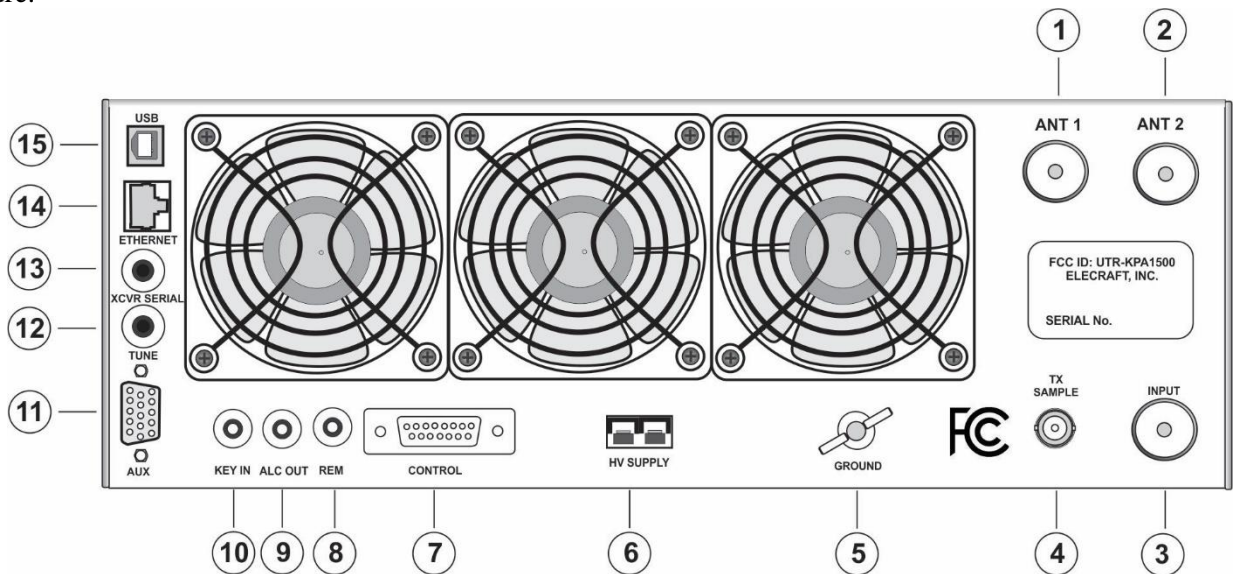
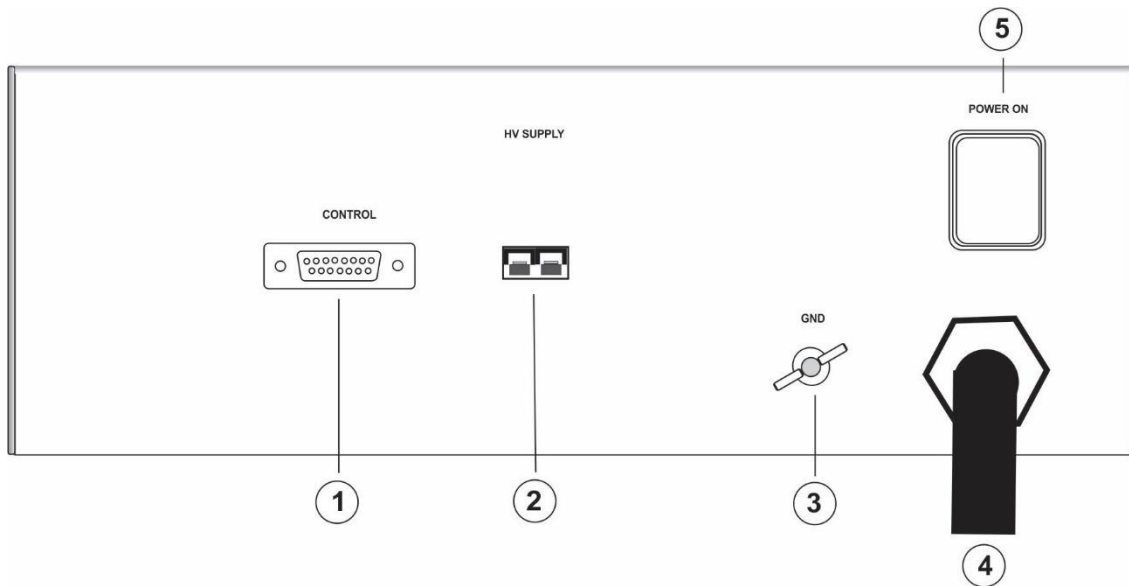

Figure 1. KPA1500 RF Deck Rear Panel
Figure 2. Power Supply Rear Panel.
The KPA1500 RF deck rear panel is shown in Figure 1. The connectors and controls are described following the figure.
The KPA1500 Power Supply Deck is shown in Figure 2. The connectors and controls are described below the figure.
Be sure the POWER ON switch (⑤, Figure 2) is off before connecting any cables to the Power Supply or RF deck.
Connect the Power Supply to the RF deck with the supplied 66-inch (167 cm) cable that has an Anderson PowerPole® connector and a 15-pin connector at each end. Plug the PowerPole connector into the HV Supply connector (⑥) on the RF Deck rear panel (see Figure 1) and the corresponding connector on the Power Supply (②, Figure 2). Observe the polarity; match the colors on the plug with the connectors. *Note that the 75A PowerPoles click twice when inserted. There is no electrical connection until the second “click”.*
Connect the 15-pin connector to the Power Supply and the Control connector (⑦, Figure 1) on the RF Deck rear panel.
1. Connect your station ground to the GND wing-nut **⑤** (see Figure 1 on page 6). A good station ground is important for safety and to minimize local radio frequency interference (RFI).
2. Attach the RF INPUT **③** to the output of your driving transceiver or transmitter using a 50 ohm coaxial cable with a PL-259 male connector on the KPA1500 end.
3. Attach the ANT 1 **①** or ANT 2 connector **②** to a suitable load with an SWR of less than 1.5:1. A 50  $\Omega$ , 1500 W dummy load is strongly recommended for initial testing. Be sure to select the correct ANT connector using the front panel ANTENNA switch before transmitting.